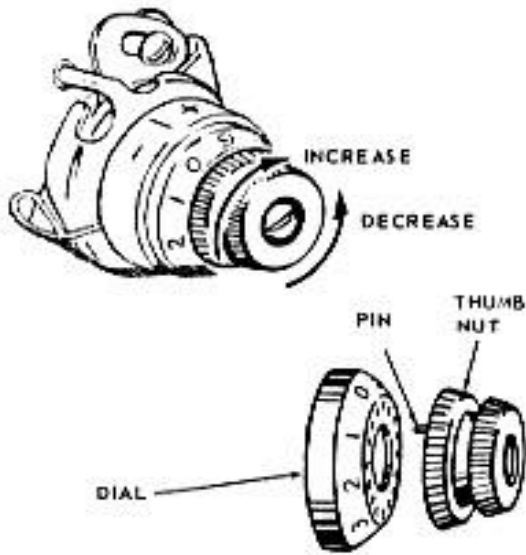

Fig. 21. Adjusting Needle Thread Tension
With machine threaded, lower presser bar to engage tension and turn tension regulator dial to zero (0) position, Fig. 21. Hold thread on both sides of tension regulator and pull back and forth through tension discs. The tension on the thread should be just slightly perceptible, which gradually increases with the turning of the regulator dial to the right.
If the pull on the thread is too strong for minimum tension, press in numbered dial to disengage pin in thumb nut, Fig. 21, from dial. Reset pin in next hole to the left of previous setting. Repeat process until there is no tension on thread. Then advance pin one hole to the right to produce minimum tension at zero (0) position